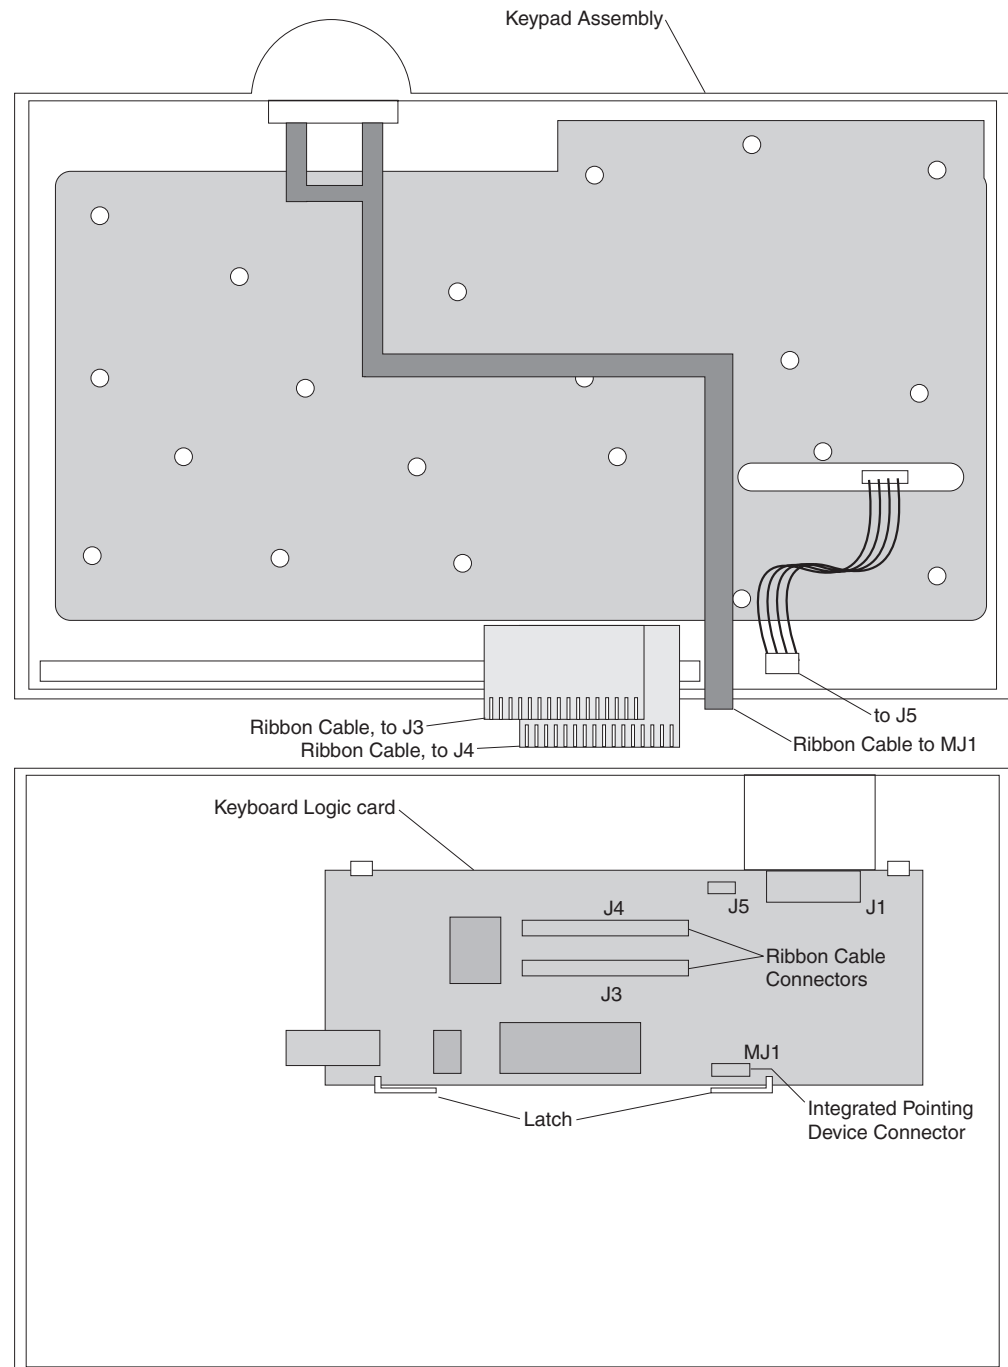

Figure 149. CANPOS keypad assembly without MSR
- d. Disconnect all cables between the keypad assembly and the keyboard logic card. See Figure 149 for cable callouts and locations.
2. Pull the two card-retention latches away from the card and lift the logic card out of the keyboard base. See Figure 149 on page 171 for card and latch locations.